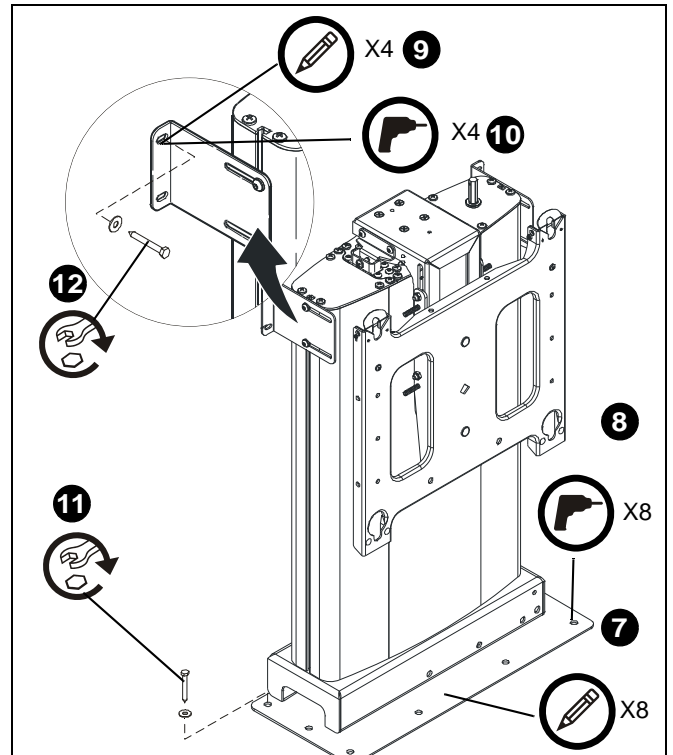

Figure 18
5. Loosen four screws securing side mounting brackets to mount and adjust side mounting brackets until properly positioned against vertical mounting surface. (See figure 18)
6. Tighten four screws to hold position of side mounting brackets. (See figure 18)
7. Mark eight base mounting hole locations. (See figure 18)
11. Secure mount base to mounting surface using eight screws. (See figure 18)
12. Secure mount to vertical mounting surface using four screws. (See figure 18)